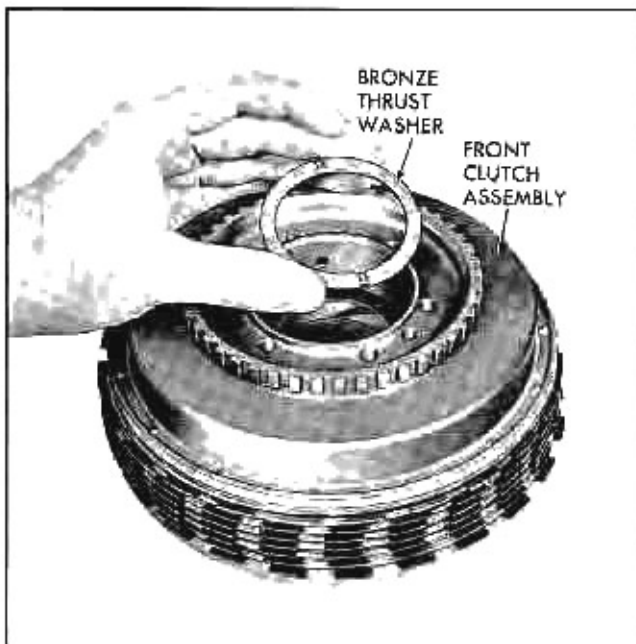

Fig. 110 Installing Bronze Thrust Washer in Front Clutch Assembly
1. Install front clutch assembly into front of transmission engaging teeth in front clutch hub with reverse cone. Be sure bronze washer is positioned in counterbore of front unit clutch drum (Fig. 110).